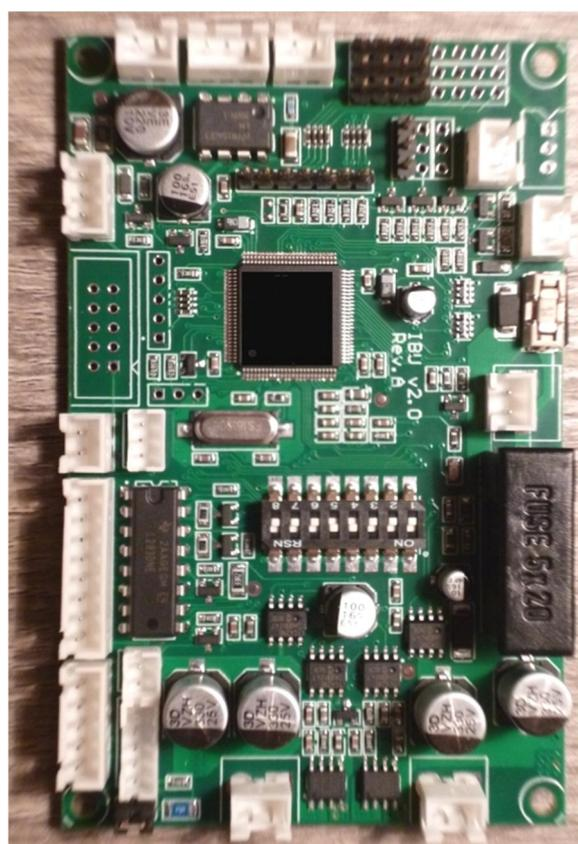

Fig. 1 - IBU2 top and bottom view
- Fig. 1 IBU2 top and bottom view